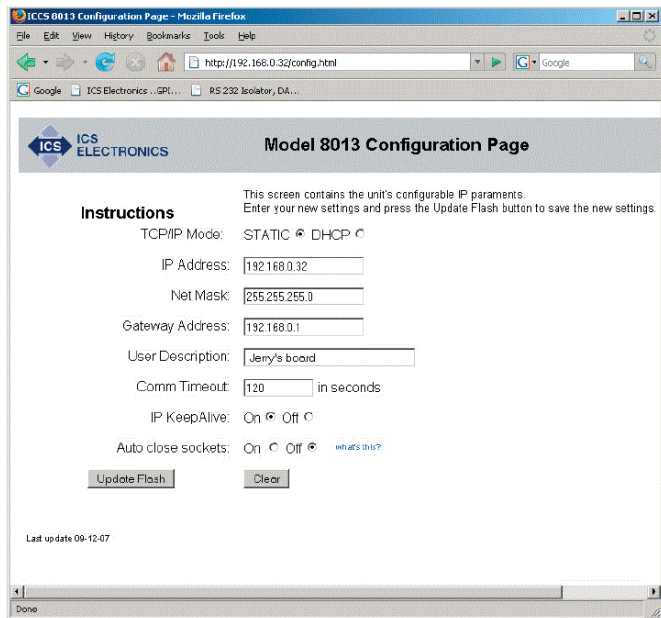

Figure 4-4 8003 Configuration Page
6. If you want to change any of the settings, press the 'Update Configuration' button. A Configuration Page similar to the one shown in Figure 4-4 should appear in your browser.